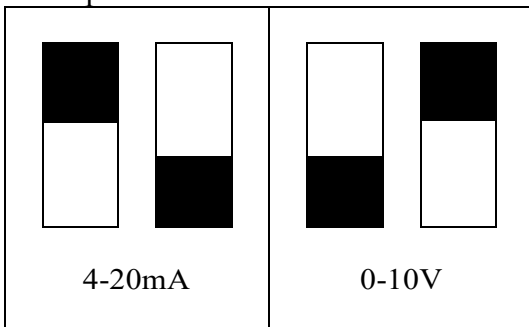

Fig 1.
- (1) **Buttons for setting the limit value for the selected channel (2):**
- (2) **Channel selector:** You turn the switch until it is on the channel you want to set.
- (3) **Input selector:** Here you switch between 0-10V and 4-20mA signal. (see Fig 1)
- (4) **Activation channel:** Here you can turn the individual channels on and off. (a channel off shows nothing in the display).
- (5) **Inversion of the channel:** Here you switch between whether the alarm pulls when the alarm limit is above or below the measured value.
- (6) **Display connector:** Here connects the cable for the display.
- (7) **USB.** Not in use. For internal testing and quality control.
- For 0-10V, set the dip switches (3) to the 0-10V position (see fig. 1) and minus to the GND terminal and signal to the Input terminal.
- For 4-20mA active sensor, set the dip switches (3) to position 4-20mA (see fig 1) and minus to the GND terminal and signal to the Input terminal.
- For 4-20mA passive sensor, set the dip switches (3) to position 4-20mA (see fig 1) and minus to the Input terminal and plus to the 24V terminal.